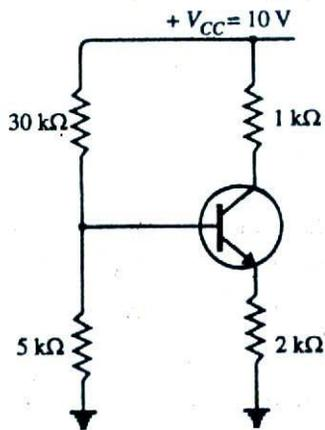

Fig. 11.35
8. In a transistor circuit shown in Fig. 11.35, find the operating point. Assume silicon transistor is used. [  $I_C = 0.365 \text{ mA}$ ,  $V_{CE} = 8.9 \text{ V}$  ]